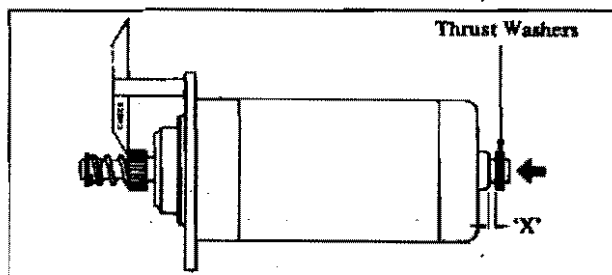

Fig. 73
16. Check that shims (36) have all been removed from the armature shaft, and then replace commutator end shield (15). Fit through bolts (35) and tighten securely, to a torque of 9.5 to 10.2 Nm (0.97 to 1.04 kgf m or 7 to 7.5 lbf ft).
17. Replace thrust washer (33) and circlips (17), but do not fit shims (16).
- (a) Bolt the gauge on to the mounting flange with the arm marked "CHECK" towards the pinion as shown in Fig. 73, then push the armature towards the drive end of the machine until the pinion face just touches the gauge. With the armature held in this position, measure gap 'X' between thrust washers (33) and the commutator end shield, using feeler gauges. Shim washers, having a total thickness equivalent to the measurement taken by the feeler gauges should then be fitted between the thrust washer and circlip. The shim washers must be well greased before use, and are available in two thicknesses 0.20 and 0.10 mm. (0.008 and 0.004 in.). A combination of these sizes giving the closest approximation to the required dimension should be used.